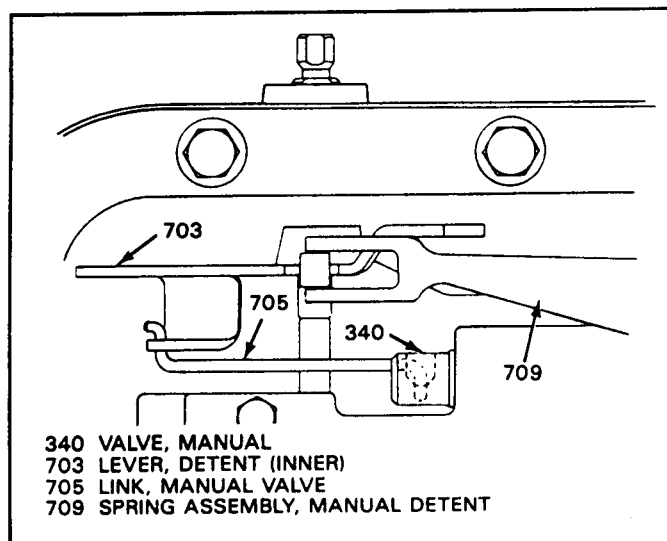

Figure 195
19. Install the pre-assembled valve body, ensuring that the manual valve link is hooked into the manual valve properly, as shown in Figure 195.
28. Install the detent spring on top of detent lever as shown in Figure 195, and install retaining bolt.